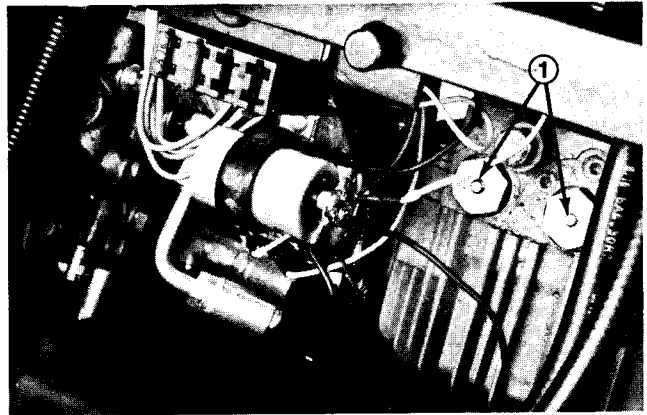

Figure 53
**IMPORTANT:** Do not push or tow the traction unit faster than 2 to 3 mph (3 to 4 km/hr) because the transmission may become damaged. If the traction unit must be moved a considerable distance, transport it on a trailer. Whenever the traction unit is pushed or towed, the bypass valves (Fig. 53) must be held in the open (down) position.